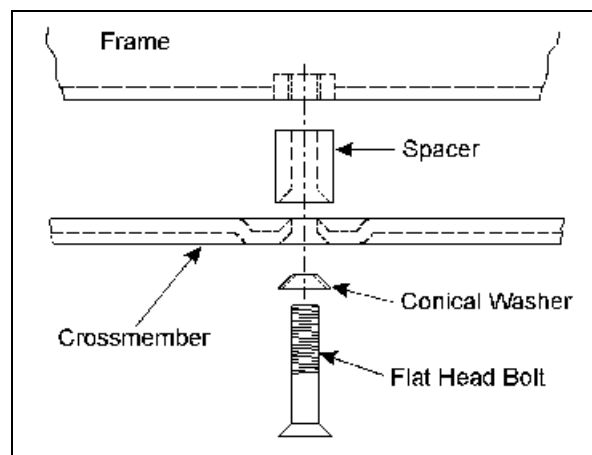

Figure 12
2. ≤ Remove the 3 bolts on one side and carefully lower the crossmember. Place 3 spacers from kit 860073 between the crossmember and the frame. The conical end of the spacer must fit over the mounting hole in the crossmember. See figure 12.
3. ≤ Install a conical washer and apply thread lock to 3 flat head bolts from kit 860073. Insert a bolt through the crossmember, each spacer, and into the frame. See figure 12.